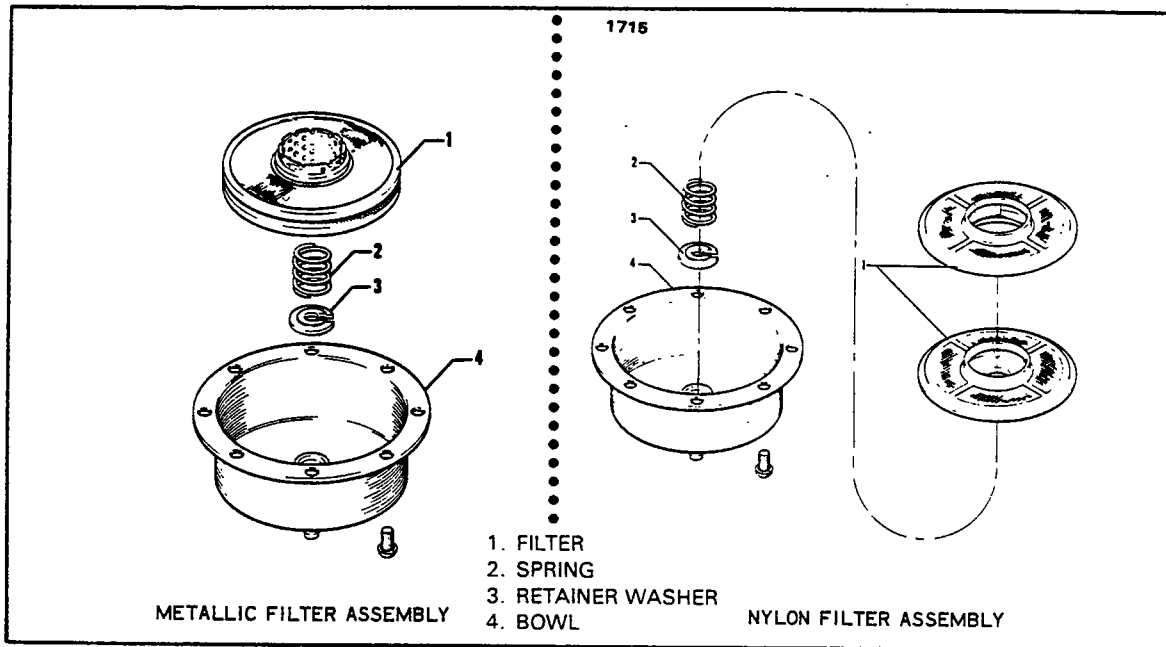

Figure 9-9. Fuel Filter (PA -28-235)
- c. Remove filter disc assembly from center stem by compressing filter retainer spring and removing filter retainer washer. (Refer to Figure 9-9.)